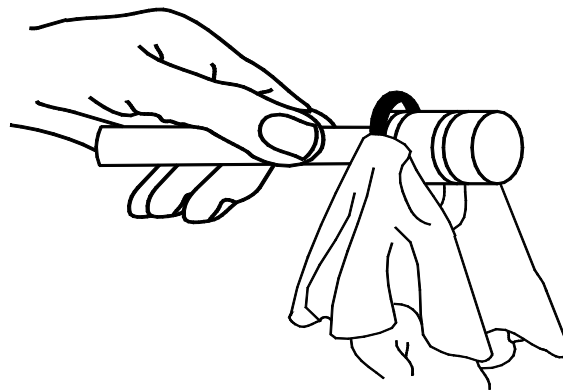

Fig. 11
- Remove the o-rings from the spigot plunger by grasping the part with one hand and with a dry cloth in the other hand, squeeze the o-ring upward. When a loop is formed, grasp the o-ring with the other hand and roll it out of its groove and off the spigot plunger (Fig. 11).